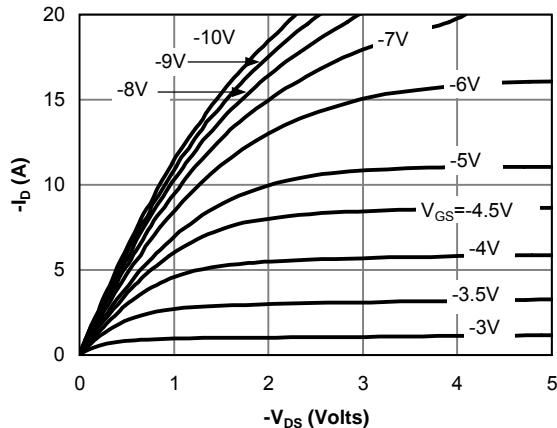

Fig 1: On-Region Characteristics
D. The static characteristics in Figures 1 to 6,12,14 are obtained using 80 $\mu\text{s}$  pulses, duty cycle 0.5% max.